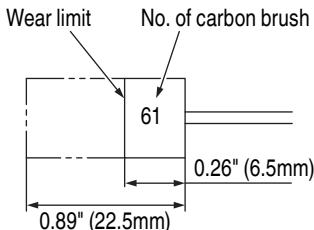

Fig. 6
4. Inspecting the carbon brushes (Fig. 6)
Use metabo HPT carbon brush No. 61 indicated in Fig. 6.